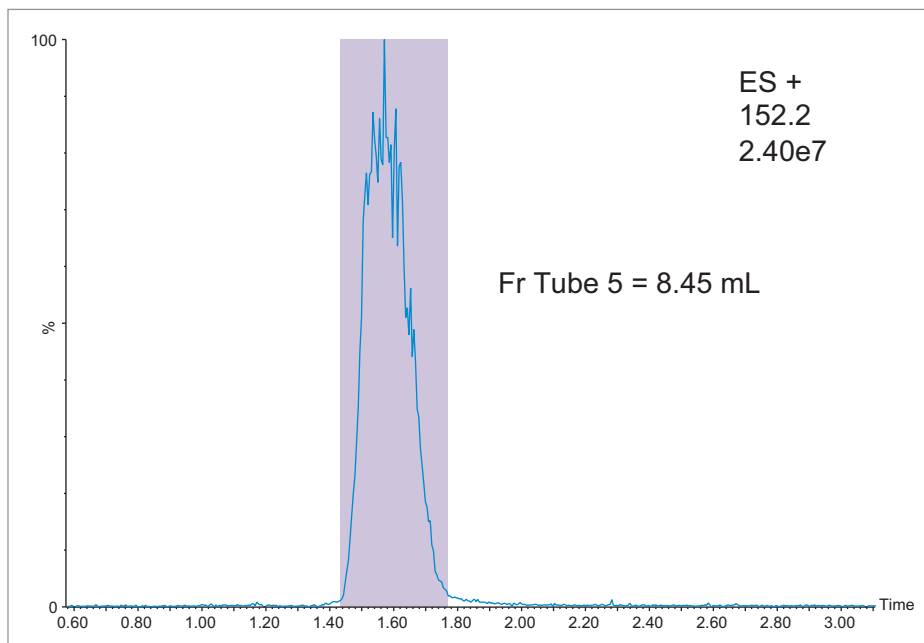

Figure 6. Analyte collection by mass trigger.
- B. Injected another 200 μL of sample and collected the fraction by MS trigger (ES+, $m/z = 152.2$) in centroid mode. The chromatogram should be similar to the one shown in Figure 6.